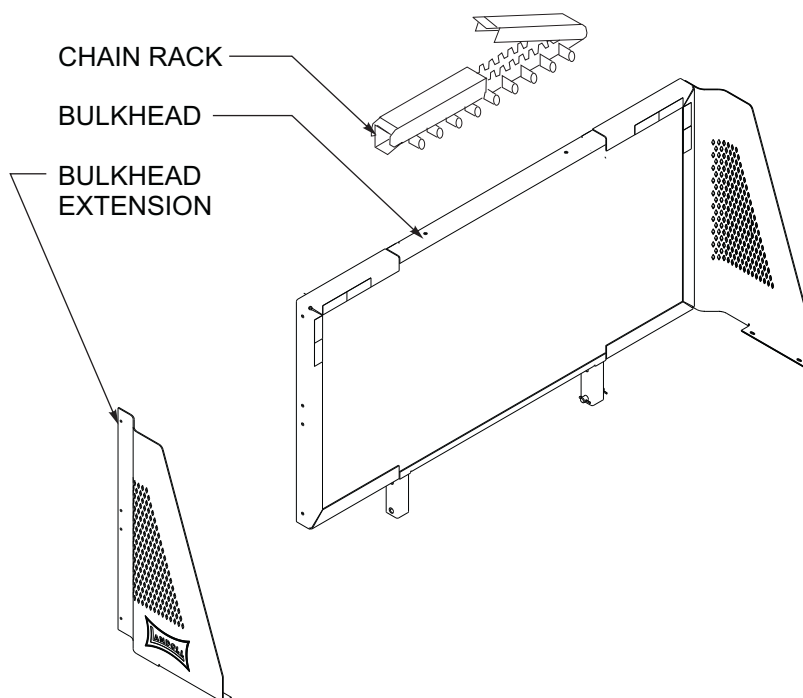

Figure 3-11: Bulkhead (Option)
1. Optional bulkheads may come with or without chain racks. To remove a bulkhead, disconnect the electrical harness (if work lights are present), remove retaining pins holding the bulkhead into the pockets on the semitrailer front and bolts and nuts attaching the bulkhead extensions and supports to the deck, and lift the bulkhead off (*See Figure 3-11.*)